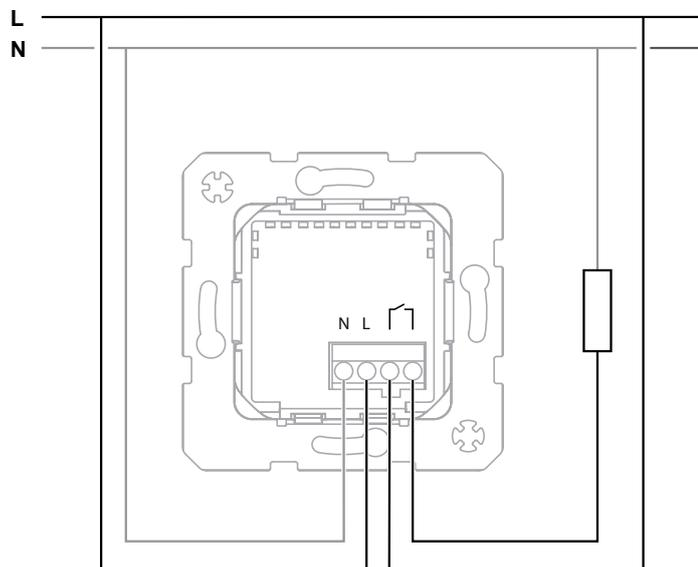

Figure 3
- Connect relay switch insert (1) according to connection diagram (Figure 3/4).